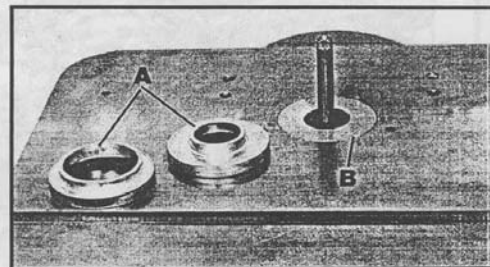

Fig. 21
Two table inserts, accessory Catalog No. 43-198, are available for use with your shaper. These inserts are shown at (A) Fig. 21, and replace the standard insert (B) supplied with your machine. These inserts have guide shoulders, 2-3/8" O.D. and 1-5/8" O.D., and are for shaping without the use of collars.